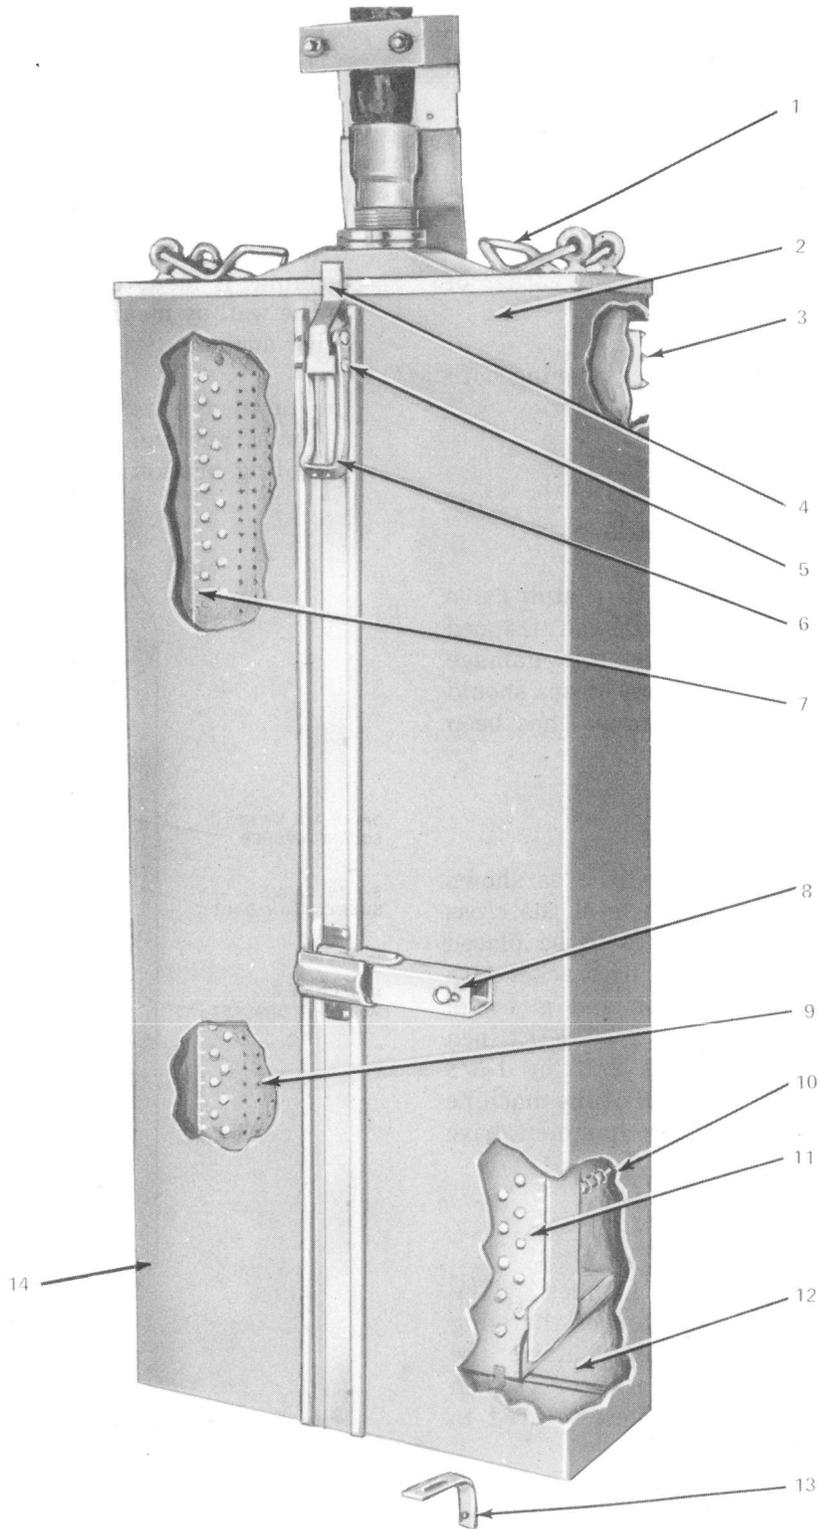

Fig. 6—Replacement Parts
5.01 Parts for the B-type cable terminals available as field replacement or modifications are shown in Fig. 6.